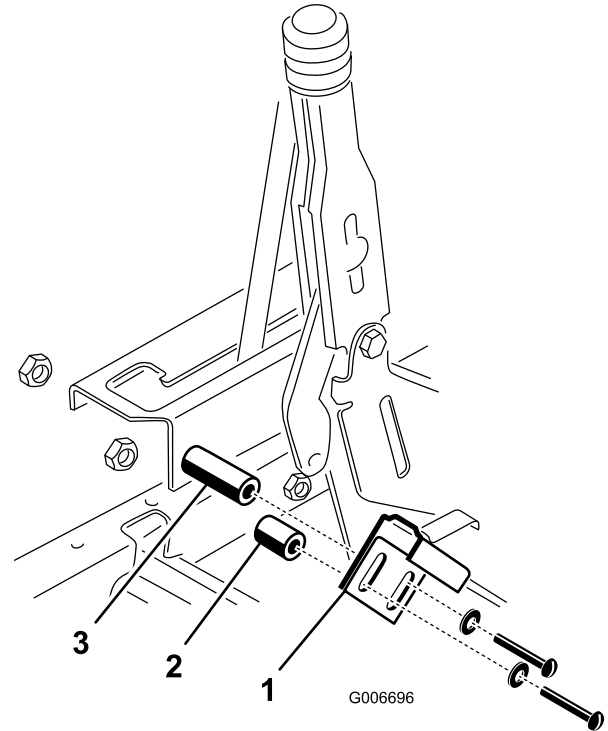

Figure 10
- Loosely mount parking brake switch to vehicle console with (2) spacers, #10-24 screws, washers and nuts, as shown in Figure 10. Different length spacers and screws are used to mount switch level.